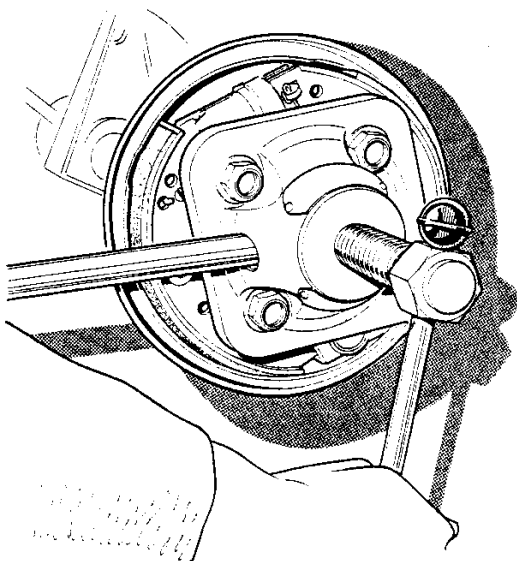

Figure 4 Hub puller in use (axle removed)
6. A hub puller, part No. RT 8090 is necessary to remove the hub. Fit hub puller sleeve on to the end of the half shaft (**Figure 4**), to prevent damage. If the sleeve is not available, refit the nut and screw until the top face of the nut is level with the end of the half shaft.